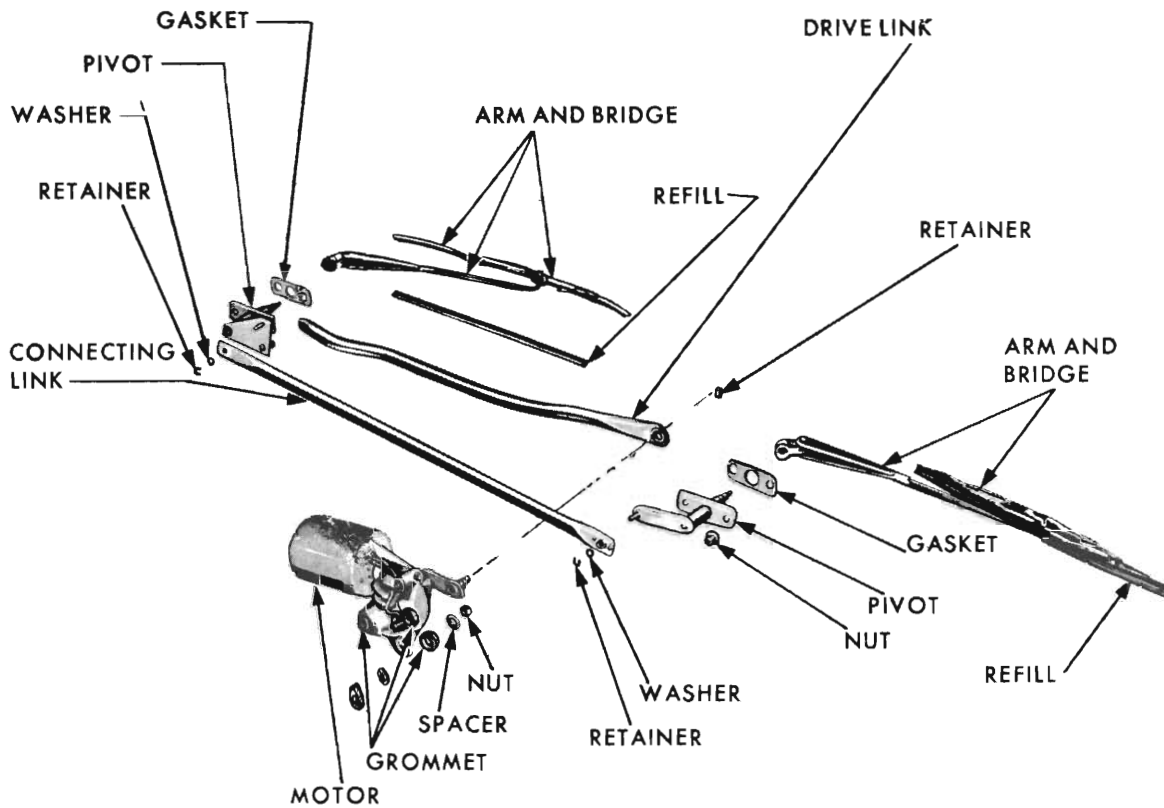

Fig. 1 - Windshield wiper (disassembled) (typical)
- (1) Remove the clip holding the drive link to the crank arm.
- (2) Remove bevel washer and disconnect drive link (*Fig. 1*).
- (3) Remove the connecting link by disconnecting the retainers and washers from the right and left pivot assemblies.